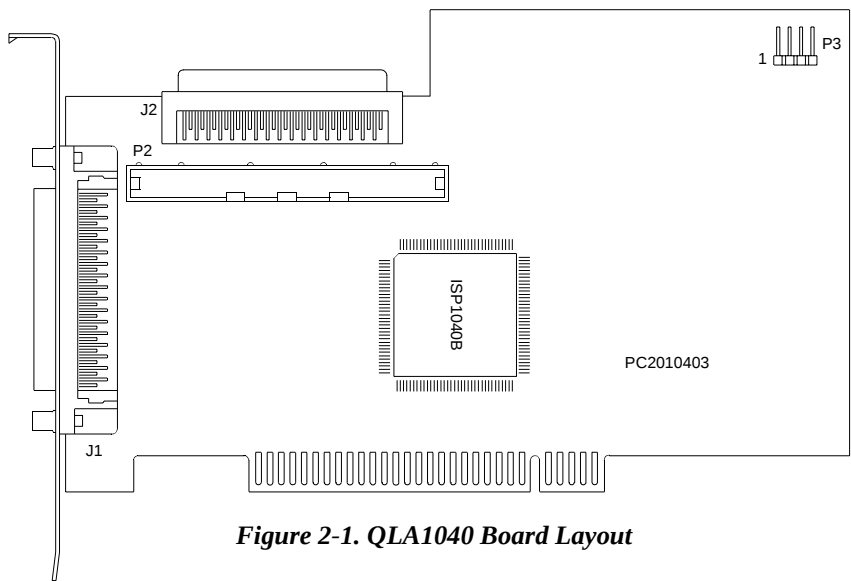

Figure 2-1. QLA1040 Board Layout
- ☐ You can use any two of the connectors on the QLA1040/1041 boards (see figures 2-1 and 2-2). Using all three connectors violates the SCSI specification and can cause your peripheral devices to operate incorrectly.
Figures 2-1 through 2-6 identify the QLA1xxx board components referenced throughout this section.
CAUTION! You can use any two of the connectors on the QLA1040/1041 boards (see figures 2-1 and 2-2). Using all three connectors violates the SCSI specification and can cause your peripheral devices to operate incorrectly.